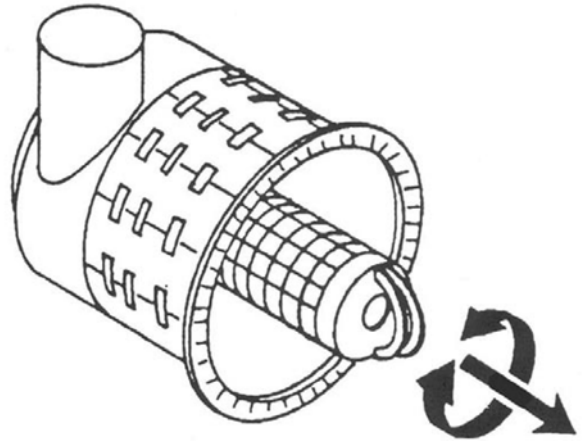

Fig. 12 Removing the secondary element (Model A)
- Take hold of the secondary element by both tabs and pull out, turning slightly to and fro (refer to Fig. 12).